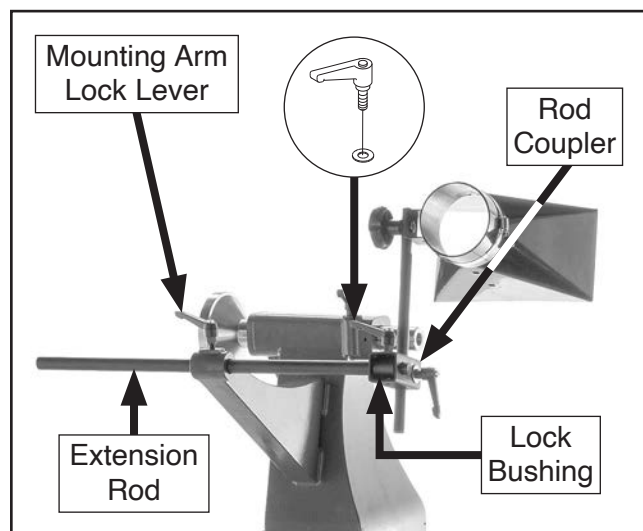

Figure 26. Attaching dust hood assembly.
16. Loosen tailstock mounting arm lock lever and install extension rod with thin end towards headstock, then tighten lock lever to secure (see **Figure 26**).
17. Install (1) lock bushing horizontally into rod coupler and align bushing holes with large holes, then insert extension rod through bushing (see **Figure 26**).
18. Install (1) lock lever with flat washer in small hole on rod coupler and lock bushing, then tighten to secure (see **Figure 26**).